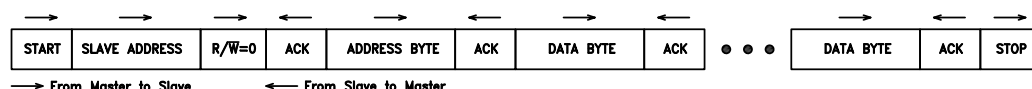

Figure 6. Master transmitter writes to slave receiver.
- Write Cycle** (master transmitter sends data to slave receiver. See Figure 6): the transfer direction is from Master to Slave and does not change. The master generates a Start condition followed by a 7-bit slave address followed by the R/W bit set to 0. The slave with a matching address replies with an acknowledge. The master then transmits the first byte to the slave device, this first byte is an address of the internal registers of the slave. The slave device replies with an acknowledge bit. The master then transmits the next byte, which is now a data byte to be stored in the internal slave register previously addressed. This is followed by an acknowledge bit from the slave. This process can continue for multiple bytes and the slave device increments its internal register address count as it receives subsequent bytes from the master. When all data transfer is over, the master generates a Stop condition to end the cycle.